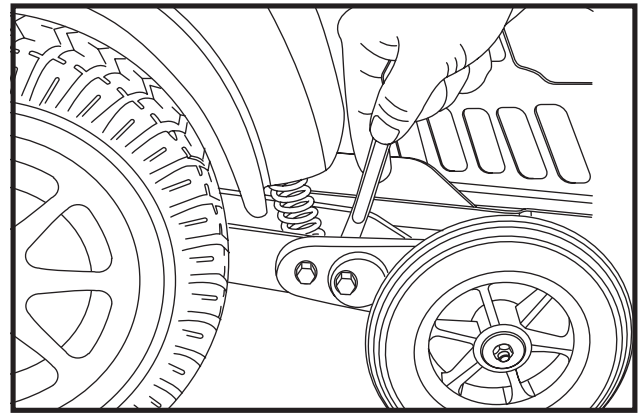

Figure 25. Anti-Tip Bracket (Inner Locknut)
1. Place a wrench on the inner locknut of the anti-tip bracket located right after the shock strut. See figure 25.